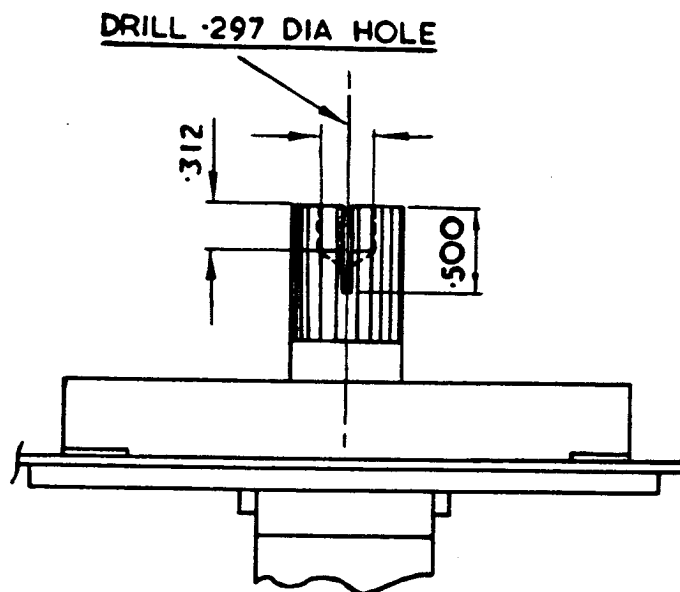

FIG. 2.
4. Using a hacksaw blade with as narrow a "kerf" as possible, make a vertical cut longitudinally through the shaft to a depth of 0.500" as shown in Fig. 2. Cut a similar slot at right angles to the first cut, and then prise the four segments open to ensure a tight fit between the handle and the splined shaft. (N.B. It is emphasized that this opening out is effected prior to counter-boring the shaft.)
5. Counterbore the end of the splined shaft 0.297" dia. and to a depth of 0.312" as shown in Fig. 2, and then file down the remains of the original boss flush with the face of the shaft.